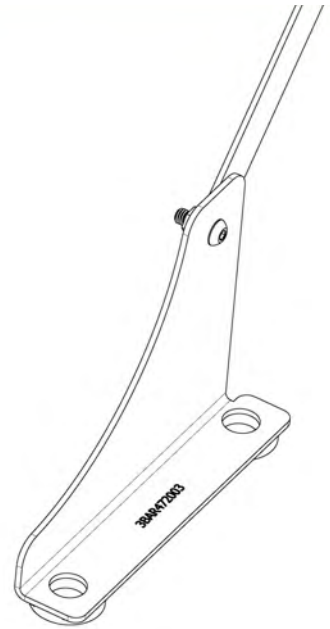

Figure 7
3. Using (4) [3X611] button head screws loosely secure the bottom flange of the Barrier to the Barrier Support Brackets.
4. Set the driver side Barrier Diagonal Support Bar on the outside of the Driver Side Barrier Bracket and loosely secure using (1) [3X611] screw and (1) [3X619] whiz nut (Fig. 7). Repeat for the Passenger side using another [3X611] screw and [3X166] whiz nut.